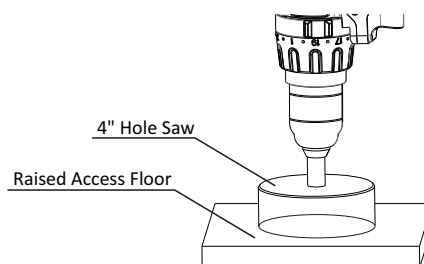

Fig. 2
2. Using a 4" hole saw, make a cut in the flooring to a depth equal to the thickness of the cast flange and cover assembly being used on the floor box (Fig. 2).